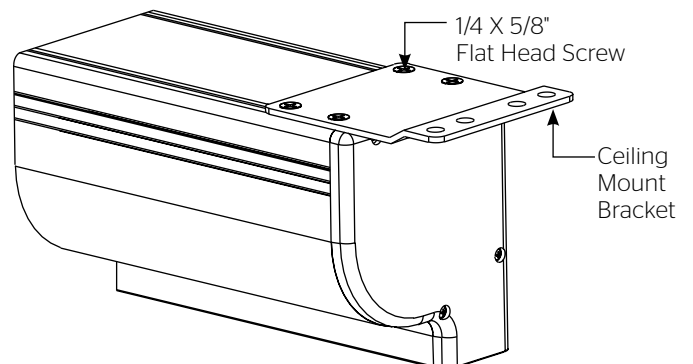

Figure 3
- Using a #2 Phillips screwdriver, loosen the four 1/4"x 5/8" screws holding the ceiling flush mount brackets (Figure 3).
- Tighten the four 1/4"x 5/8" screws holding the ceiling flush mount brackets (Figure 3).
2. Remove the ceiling flush mount brackets using a #2 Phillips screwdriver. See Figure 3. Retain four 1/4" x 5/8" screws.